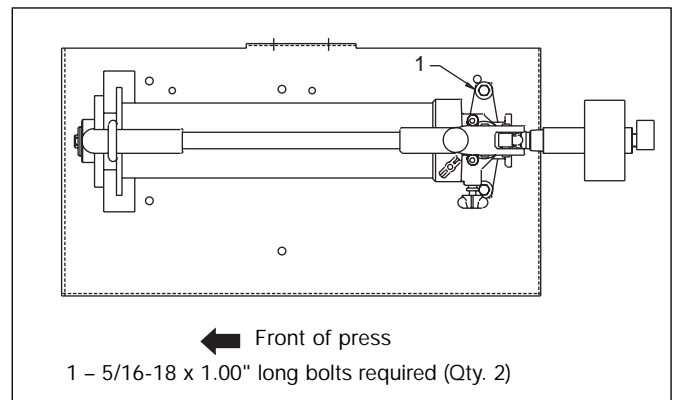

Figure 3, P-80 Hand Pump
2. Mount **Hand Pump** to table at two locations using provided hardware. See Figure 3.